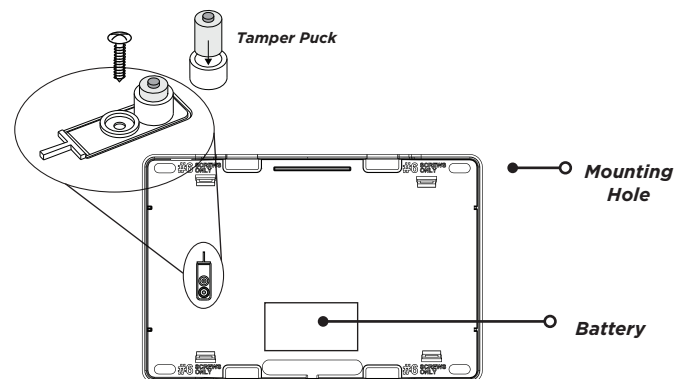

Figure 2: Inside of the 1100RINT Housing
2. Mount the receiver on a flat surface using the supplied screws. See Figure 2 for mounting hole locations.